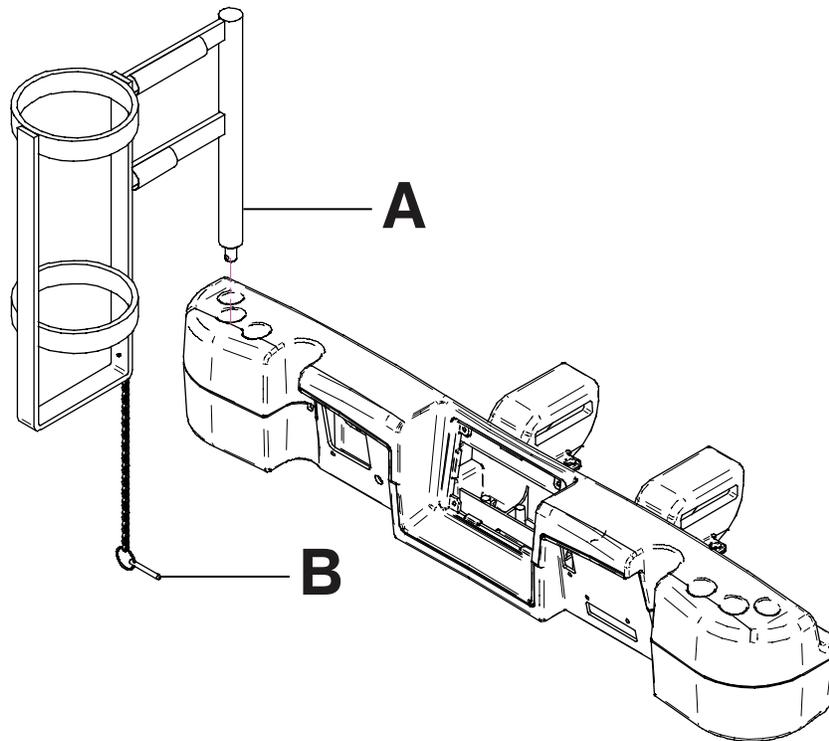

Figure 84: Upright oxygen bottle holder
1. Insert the support bar into the socket at the head end or foot end of the product on either side (A) (Figure 84 on page 83).
2. Insert the security chain pin (B) through the support bar hole (Figure 84 on page 83) to secure the bottle holder to the product.